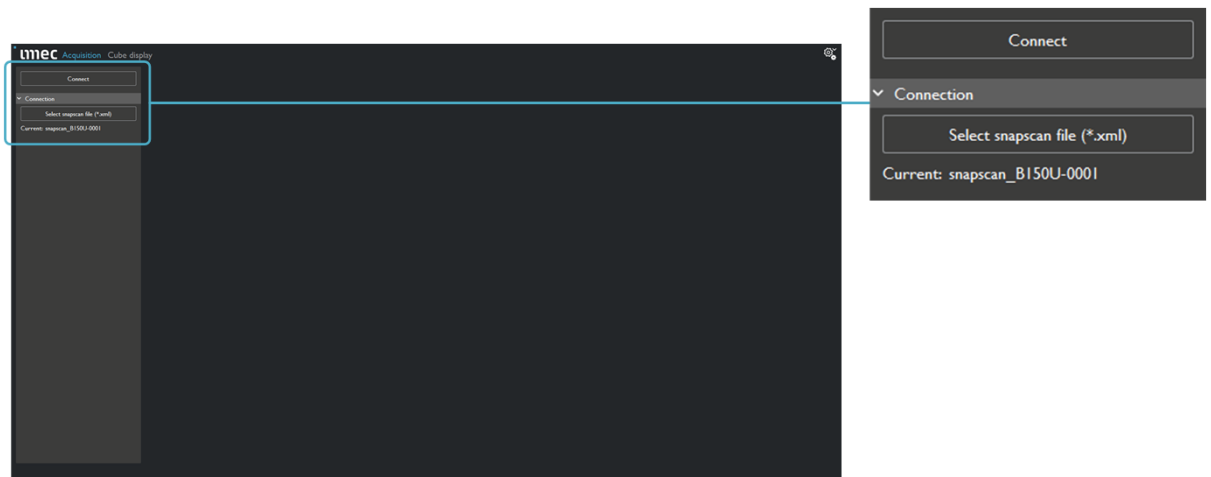

Figure 62 Configure system information file specific to the camera unit
- Configure the software by selecting the “System information file” that has been delivered with the camera unit. The software will prompt to select this file when it is launched after the installation, as shown in Figure 62.